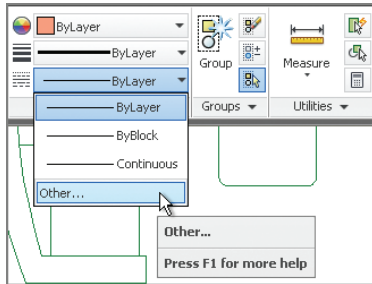

FIGURE 6.19 Accessing other linetypes
2. Open the Linetype drop-down menu in the Properties panel, and select Other at the bottom of the menu (see Figure 6.19).